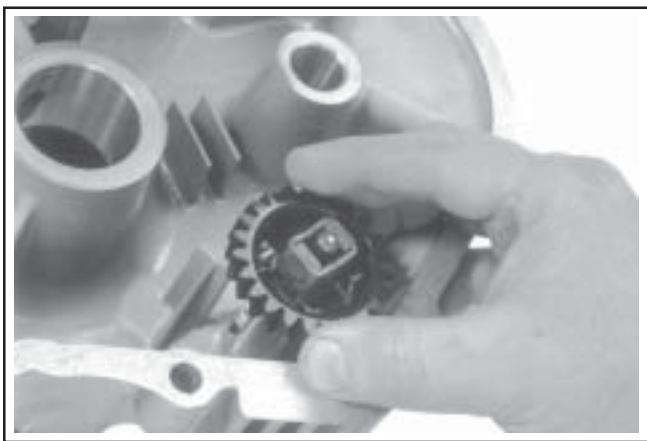

Figure 10-13. Removing Governor Gear.
1. Remove the regulating pin and governor gear assembly. See Figure 10-13.